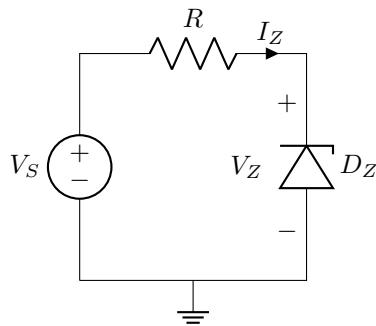

Figure 3: Zener diode characteristic measurement circuit. The Zener diode is reverse-biased with the cathode toward the positive supply.
Construct the circuit shown in Figure 3 using a Zener diode and a $100\ \Omega$ resistor. Pay careful attention to the polarity: for the Zener to operate in breakdown, its cathode (the marked end) must be connected toward the positive terminal of the supply through the resistor, and its anode must be connected to ground. This is the reverse of normal diode operation.
4. For the Zener circuit in Figure 3, assume $V_S = 10$ V, $R = 100 \Omega$, and $V_Z = 5.1$ V (and assume this voltage remains constant in breakdown). Calculate (a) the current through the Zener diode, (b) the power dissipated by the Zener diode, and (c) determine whether this exceeds a 1 W power rating. Show all work.
5. Explain in your own words the difference between static (DC) resistance and dynamic (small-signal) resistance of a diode. Write the mathematical expression for calculating each type of resistance.